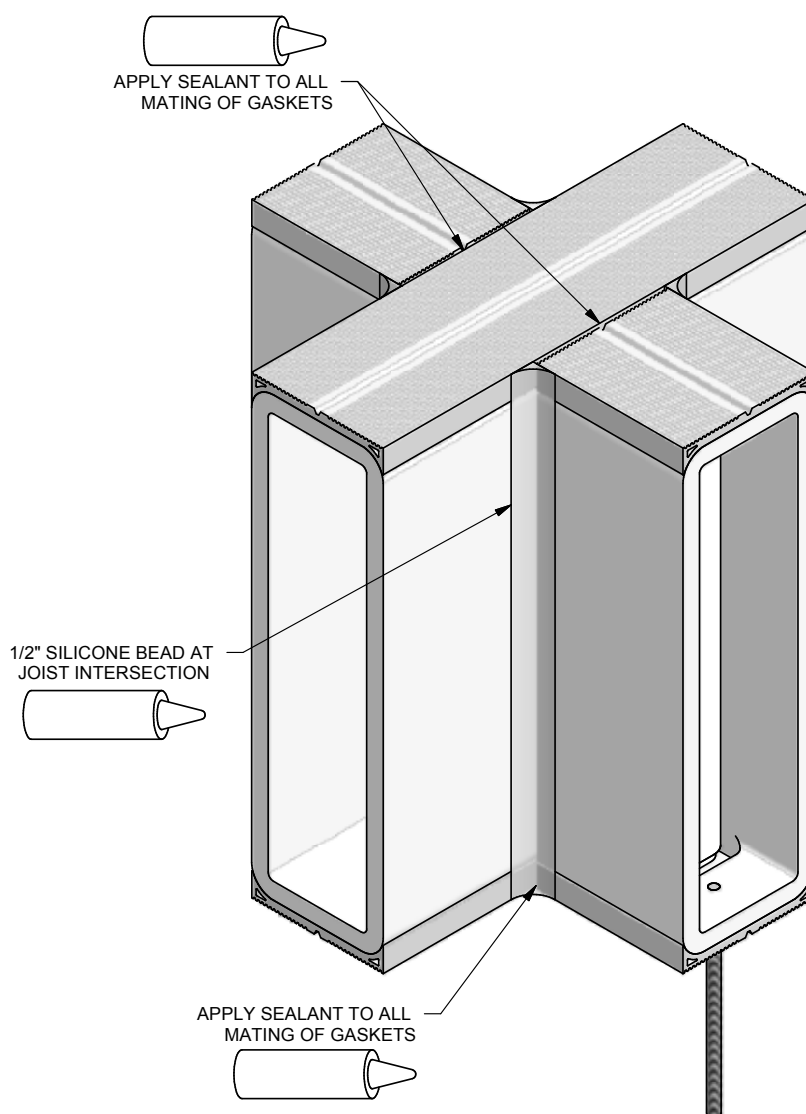

Figure 8: Joist and Gasket Sealing Detail
2. The joints where the silicone gasket meet must be sealed together to create air-tight chambers. This is to prevent moisture from getting inside the assembly, possibly creating condensation. A silicone compatible sealant is required for this step (See Page 9, Figure 8).
3. Apply a 1/2" bead of silicone sealant to the mating of the joists. Smooth bead for aesthetic looks (See Figure 8).